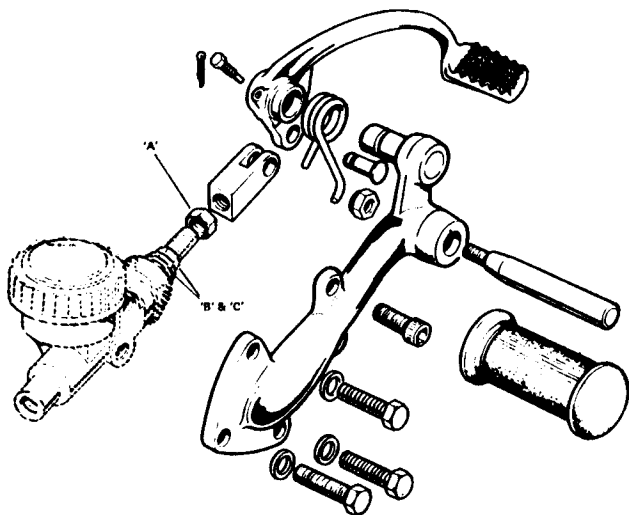

Fig. H9 Rear brake pedal (exploded) Showing order of assembly and adjusting nuts.
- 1 Slacken the locknut (A) and adjust as required using nuts B and C which are locked together during manufacture and which must not, under any circumstances, be turned in relation to each other. Disturbing this relationship will alter piston stroke and may render the brake inoperative. After adjustment retighten the locknut. See Fig. H9
In the event of a rider having the misfortune to "drop" the machine and damage or distort the brake operating mechanism (either front or rear) it is *imperative* he checks the freedom and correct functioning of the affected lever or pedal. The rear brake, in particular, must be inspected and the 'eye' and clevis and piston rod examined before attempting to ride away. Make sure the cylinder is delivering full pressure and that the pedal returns freely and unassisted to its correct height in "repose". Fig. H9 shows an exploded layout of the rear brake pedal mechanism and gives a pictorial definition of the assembly order.